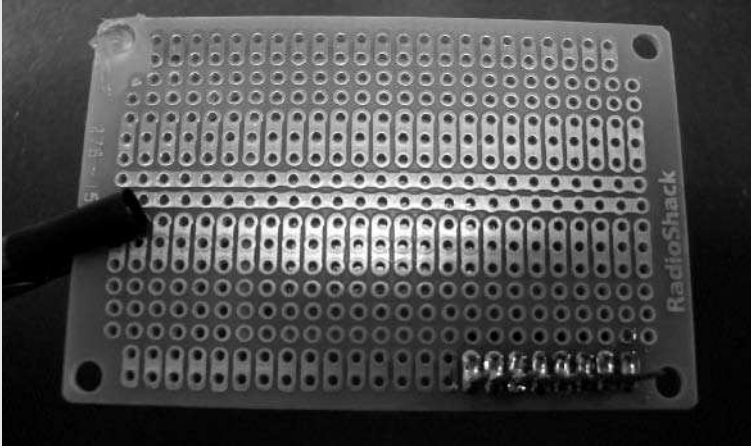

FIGURE 13-20: Soldering down the posts and header socket
3. Take an 8-pin header socket and solder it down immediately next to it. Notice that since the pads are joined, the connection between the two is made for you (see Figure 13-20). If the header socket has plastic flanges that make it hard to fit, snip them with cutters.
7. You may want to dab a blob of hot glue to the opposing corner of the circuit board to keep the board level when plugged into the Arduino board (see the top left of Figure 13-20).